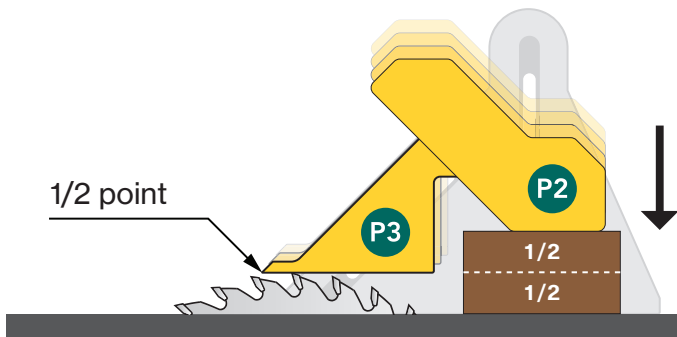

Fig 1 - P3 finds 1/2 point
- A.2.** P3 is now at 1/2 the stock thickness. Tighten the knob and set cutter to the bottom edge of P3 [Fig 1].